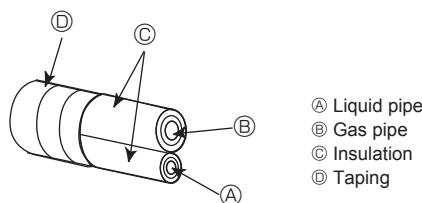
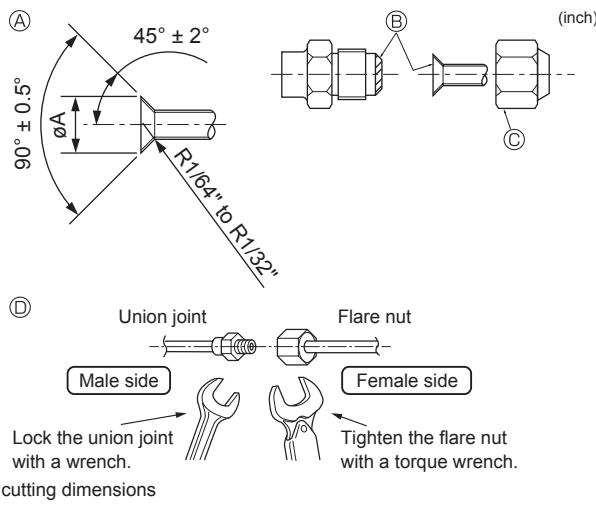

Fig. 4-5
Fig. 4-6
4.3. Connecting pipes (Fig. 4-5) (Fig. 4-6)
- [Fig. 4-6]
- Apply thin layer of refrigerant oil to pipe and joint seating surface before tightening flare nut. ④
- Apply refrigerating machine oil over the entire flare seat surface. ⑤
- Use the flare nuts as follows. ⑥
- Use 2 wrenches to tighten piping connections. ⑦